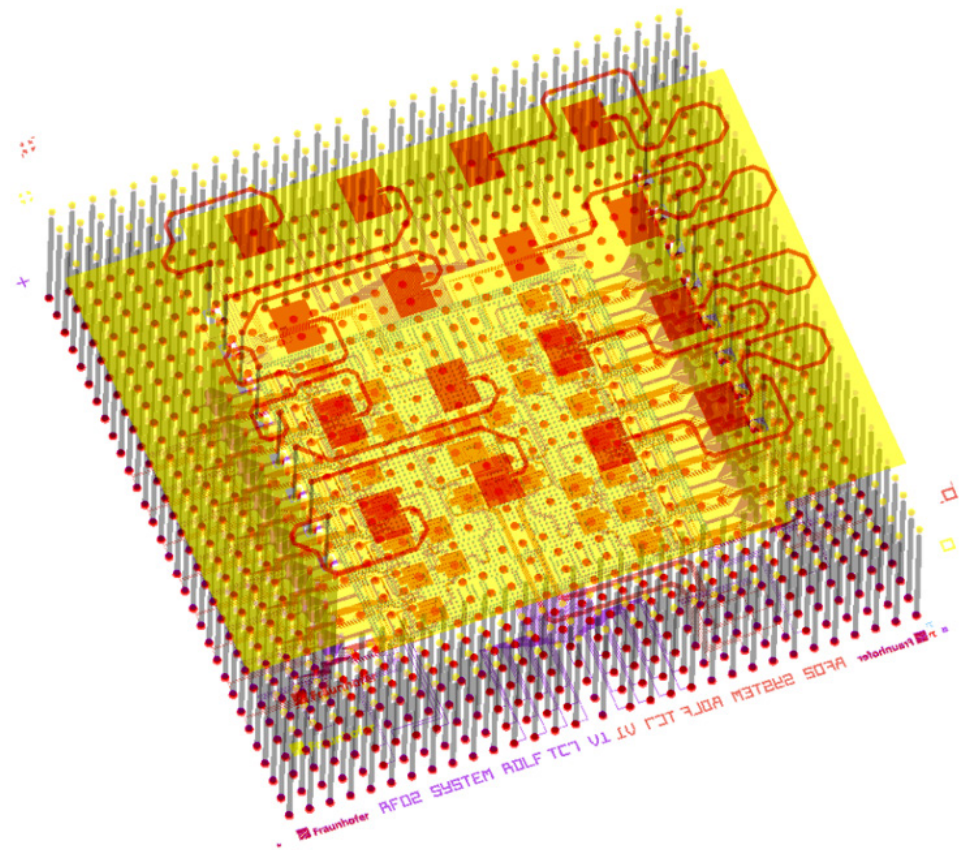

Figure 4
Dense product functionality in the smallest possible package is the driver for a multi-technology assembly. Figure 4 is an example of mixed microwave and mmWave technologies that include integrating monolithic microwave integrated circuit (MMIC), radio frequency integrated circuit (RFIC), laminate, and antennas together in a compact form factor. The challenge is when the wavelength of the propagating microwave signal is the same wavelength of the interconnect transporting them. This issue causes unwanted electromagnetic (EM) side effects that degrade circuit performance in the form of loss, coupling, and frequency shifts.